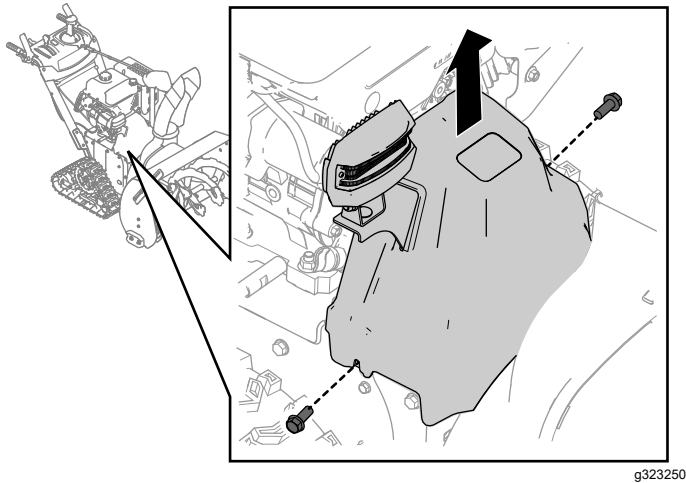

Figure 30
1. Remove the 2 screws that are holding the belt cover in place (Figure 30).
2. Remove the belt cover (Figure 30).